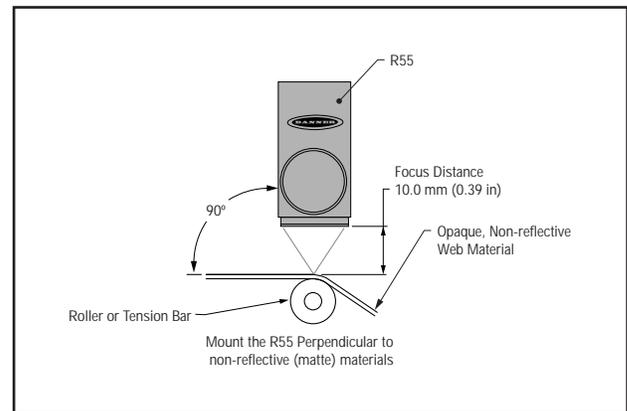

Figure 4a. Mounting for sensing opaque non-reflective materials
- 3) Whenever possible, it is a good idea to sense a web material at a location where it passes over a tension bar or roller, to minimize the adverse affects of web "flutter" or sag (Figure 4a).